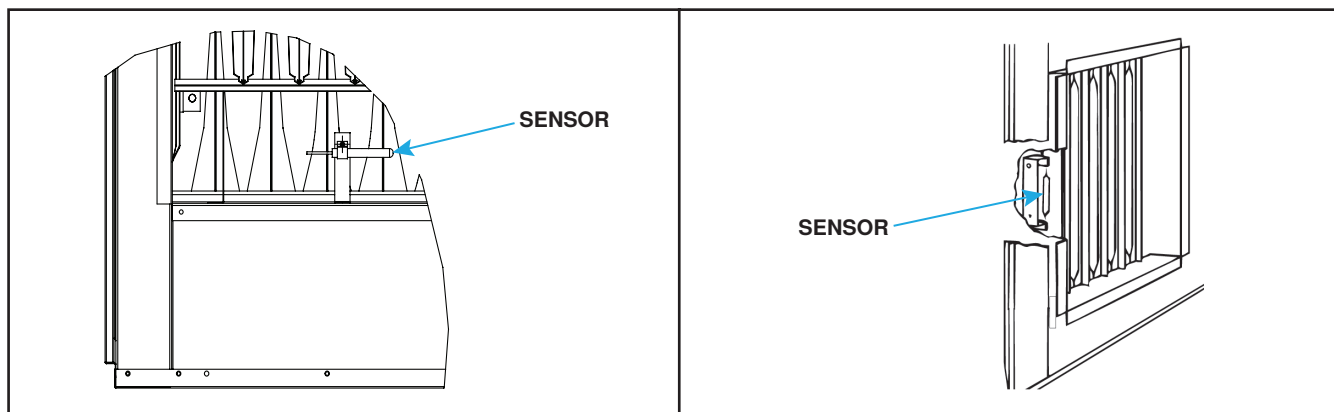

Figure 5. Shipping Locations of Capillary Sensor
Depending on the gas control option, the discharge air temperature sensor is either factory- or field-installed. Field-installed sensors have one of two configurations: a sensor and mixing tube assembly or a sensor holder and junction box assembly. For units with the sensor holder and junction box assembly option, the sensor is normally installed on a bracket in the furnace discharge for shipping but it may be mounted in the cabinet leg (see Figure 5).
- (1) Before connecting ductwork to furnace, remove capillary sensor from its shipping position on furnace (see Figure 5).